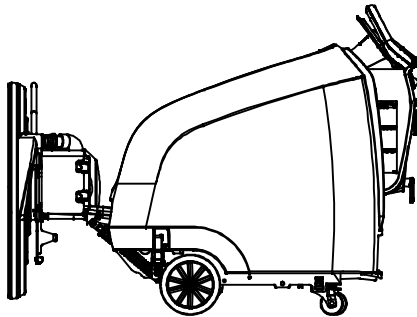

FIG. 55
5. For storage areas with limited space, raise the head as shown (Figure 55).